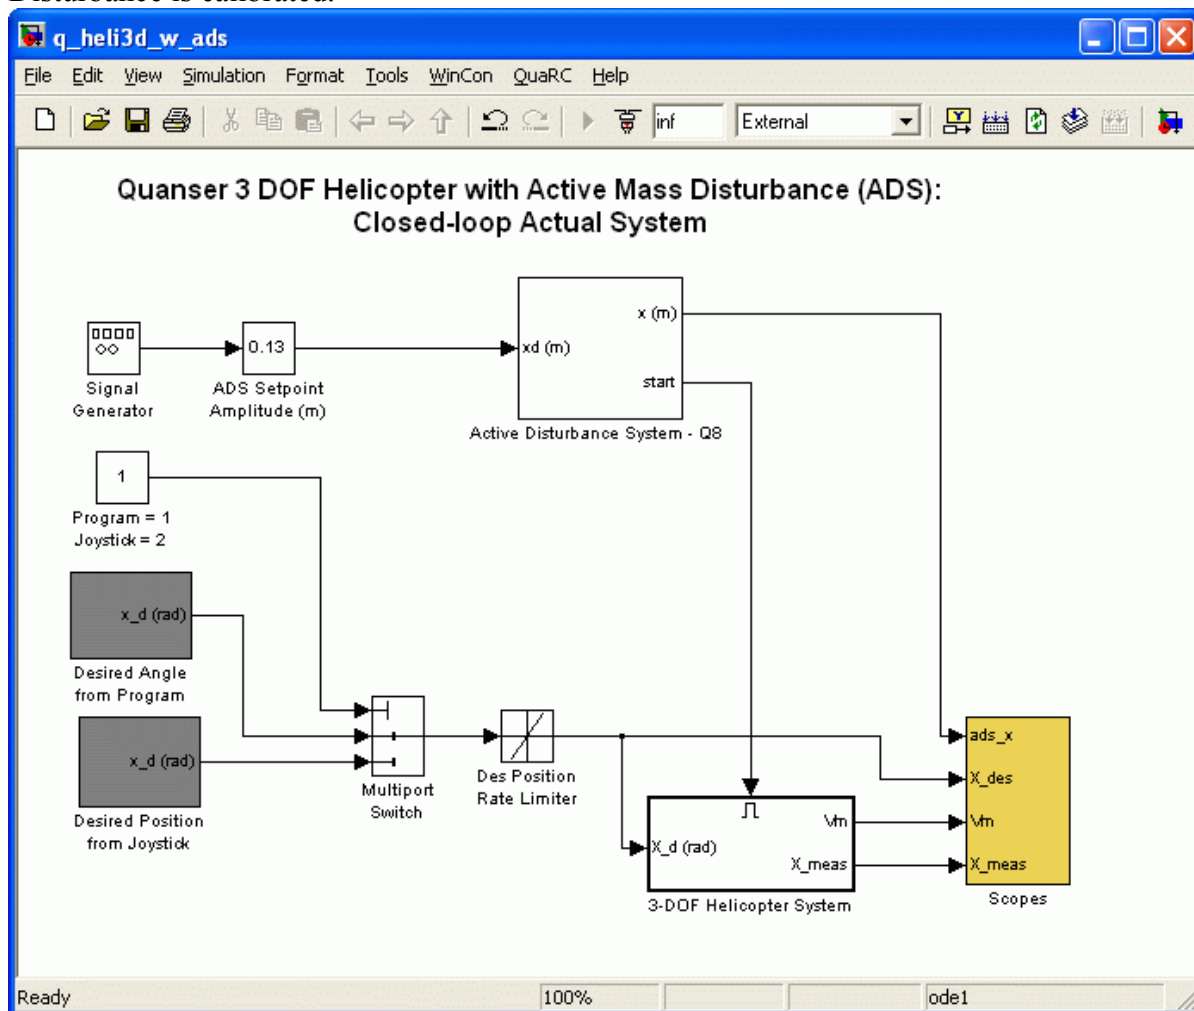
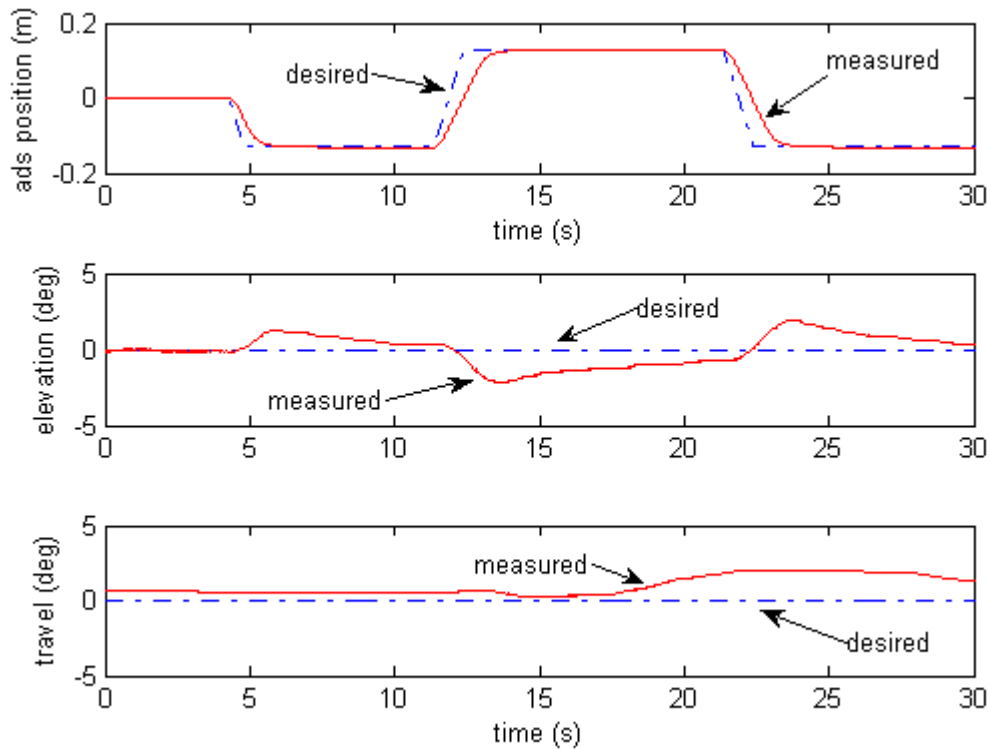

Figure 31: Simulink model *q\_heli3d\_w\_ads\_q8* implements an LQR controller on the 3-DOF Helicopter with Active Disturbance system.
Figure 32: Closed-loop response of 3-DOF Helicopter ADS device.
1. Open Simulink model `q_heli3d_w_ads.mdl` shown in Figure 31 that implements a sample LQR controller on the 3-DOF Helicopter with ADS plant. The model runs your actual 3-DOF Helicopter w/ ADS plant by directly interfacing with your hardware through the QuaRC blocks,
- Open the *elevation (deg)*, *travel (deg)*, and *Vm (V)* scopes from the *Scopes* folder. These scopes display both the desired and measured angles of the Helicopter as well as the voltages being applied to the front and back motors.
8. In the *q\_heli3d\_ads* Simulink diagram, make sure the *Program/Joystick* block shown in Figure 31 is set to 1 in order to generate the desired angle from Simulink.
12. In the *Vm (V)* scope, the green line is the front motor voltage and the red trace is the back motor voltage. These should be within  $\pm 25\text{V}$  and not go negative very often.
14. Figure 32 below depicts the measured closed-loop position response of the 3-DOF Helicopter with the ADS when the disturbance mass is moving between  $\pm 0.13$  meters at 0.05 Hz.
15. Alternatively, the desired angle can be generated using a joystick - either the analog or USB described in Section 5.5. To use the joystick, set the Program/Joystick switch shown in Figure 31 to 2. The rate at which the desired angle increases or decreases given a joystick position can be changed using the `K_JOYSTICK_X` and `K_JOYSTICK_Y` variables that are set in the `setup_lab_heli_3d.m` script file.